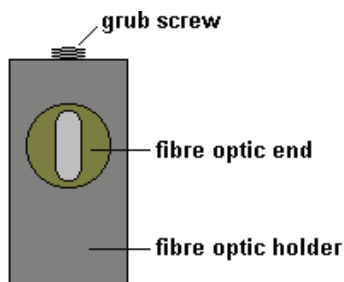

Figure 54 Right holder grub screw
5. Insert the sampling end of the fibre into the right side holder of the sample area accessory and tighten the grub screw, as shown in Figure 54.